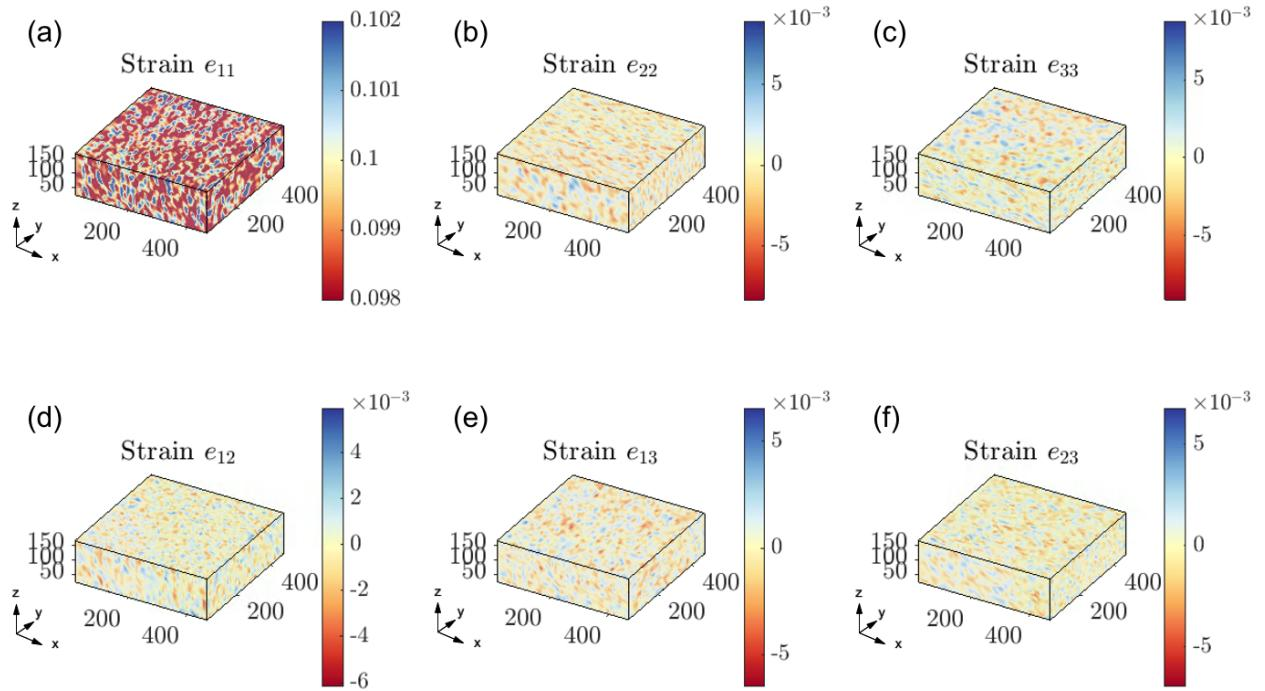

Figure 11: Solved infinitesimal strains from Subproblem 1 IC-GN iterations.
In this uniaxial stretch example, solved displacement and strain results are shown in Fig. 10 and Fig. 11. There are 585 (only 2.2% out of the total 26,325 subsets) bad local subsets that did not converge in the local step (IC-GN iterations) for this case. Here the PC is: Processor Intel(R) Core(TM) i5-4670K CPU 3.40GHz, RAM 16.0 GB, OS 64-bit Windows 10. Volumetric image size: 512vx \times 512vx \times 192vx; each subset size: 20vx \times 20vx \times 20vx; neighboring subset distance: 10vx \times 10vx \times 10vx. Four threads are used here. Although this computation speed is a little bit slower than the reported time cost in our paper [1] where an Intel i7-9800X, CPU 3.80 GHz, RAM 64.0 GB, 64-bit OS with 8 threads are used, it is still fast and finishing within three minutes with these DVC parameters. If you do not have the Parallel Computing toolbox installed in MATLAB, or the computer memory is limited, please modify the `DVCpara.ClusterNo` as `1`, which uses a single thread to compute ALDVC Subproblem 1.